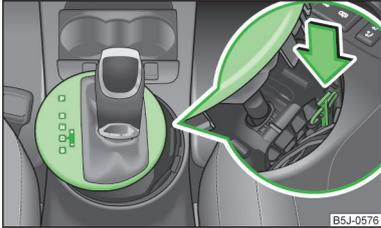

Fig. 107
- Use a finger to press the yellow plastic part in the direction of the arrow » Fig. 107.